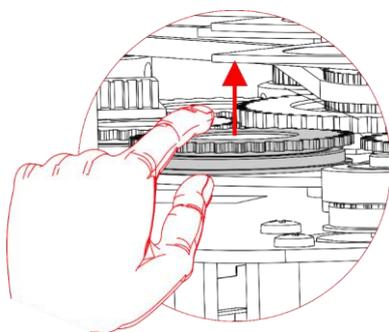
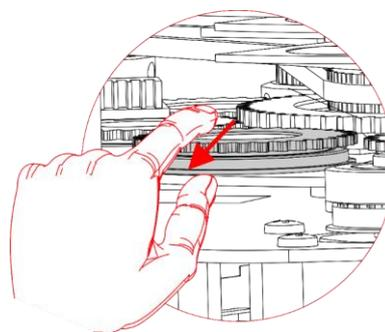

Fig. 16
Fig. 17
- 06) Gently lift the gobo holder a bit up and pull it out from the rotating gobo wheel, as shown in Fig. 16 and Fig. 17.